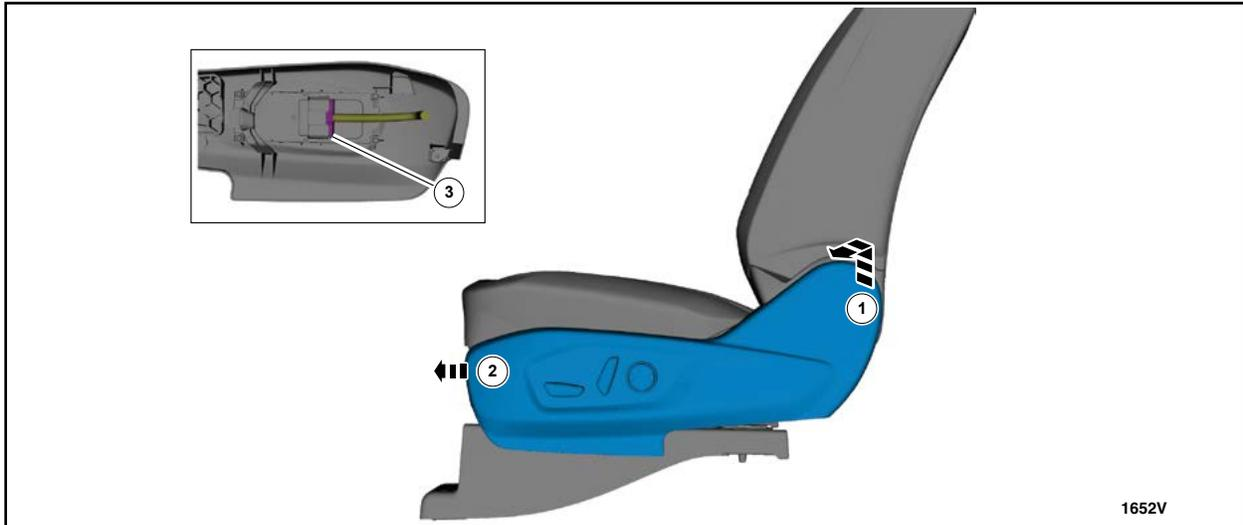

FIGURE 21
5. Remove the side shield. See Figure 21.